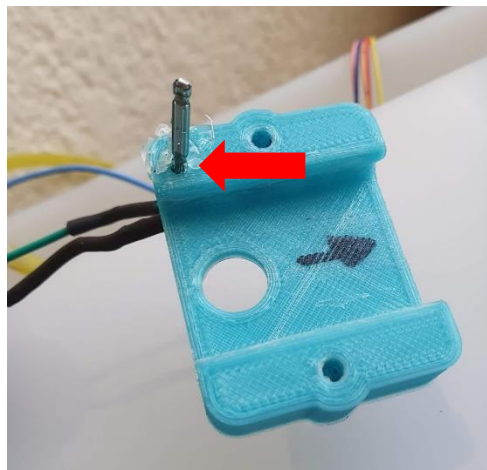

Figure 30- Reed switch placed at the junction
13. Insert the arm reed switch into the joint shown in Figure 30.